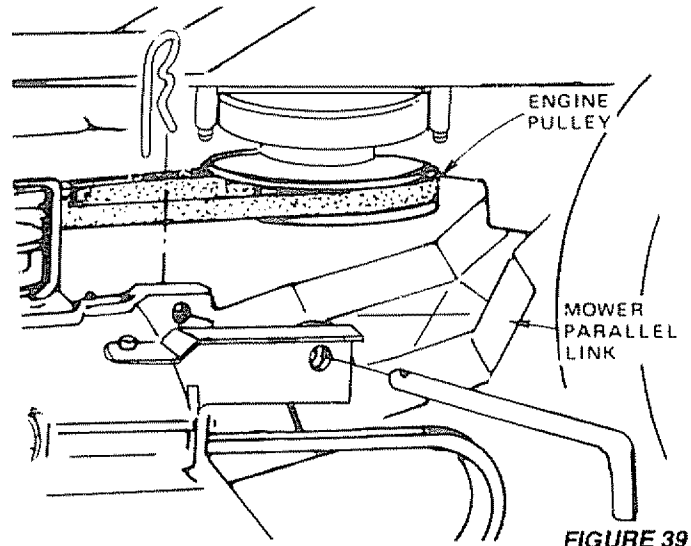

FIGURE 39
- Roll belt off engine pulley (Fig. 39).
- Pull belt off engine pulley (Fig. 39).